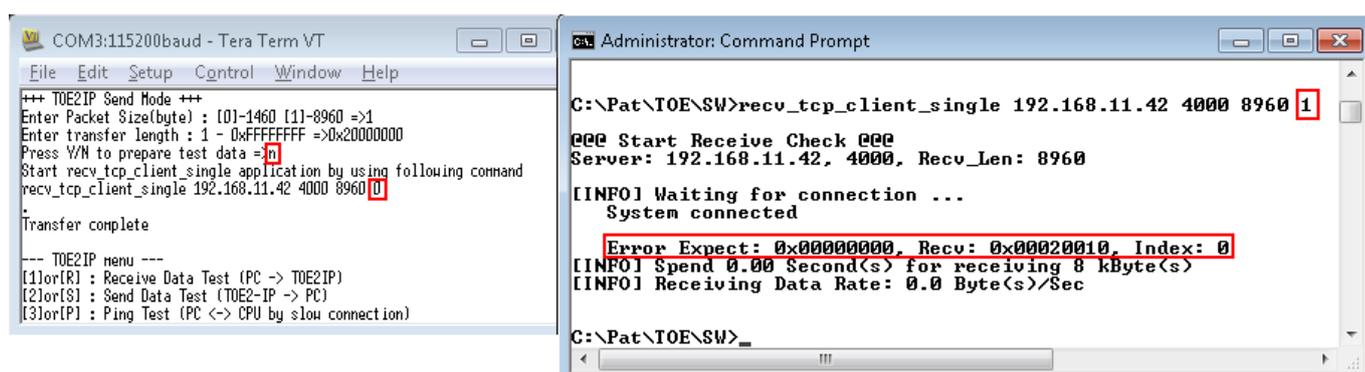

Figure 25 Error message on test application when data verification fail
- Figure 25 shows the example error condition when run “recv_tcp_client_single” application to verify dummy data from FPGA which is not recommended command from Serial console.